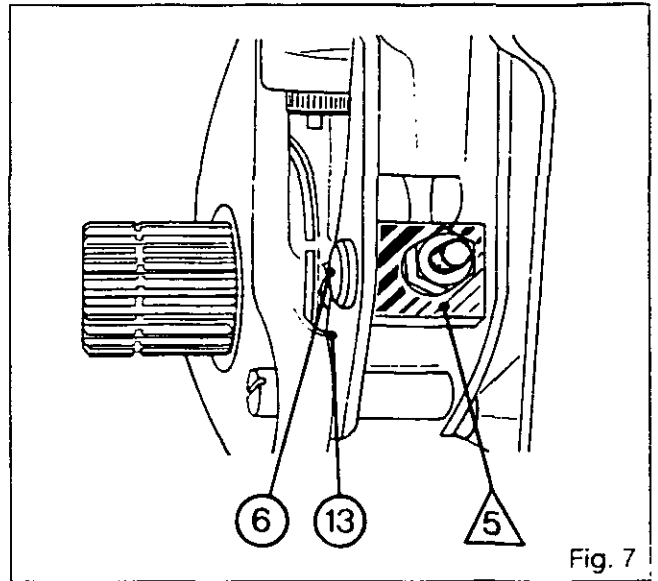
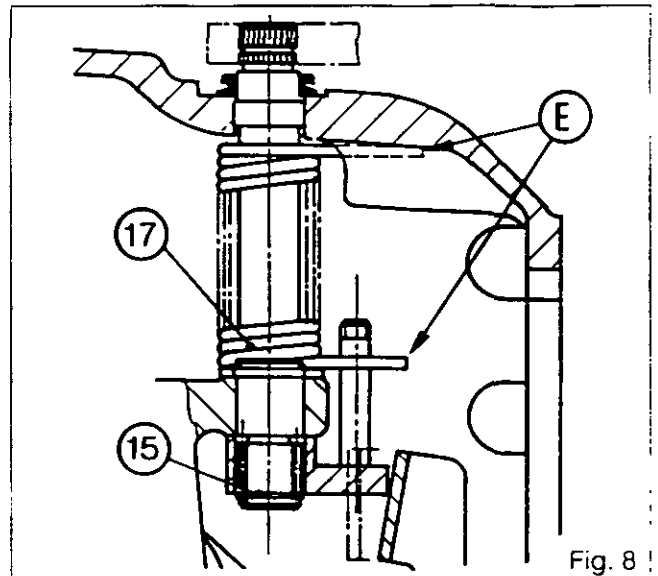

Fig. 7
Fig. 8
36. Refit the clevis (7) prepared with the stud (3) and the pin (8). Replace the split pin (9).
37. Fit the lever (13) with its pin (6) on the stud (3) of the clevis.
38. Refit the plate (5), tighten the nut (4).
**Note: The plate (5) is rectangular. It must be positioned horizontally, lengthwise, on the pin (6) in the lever (13) to be correct (Fig. 7).**
39. Replace the discs (30), placing the mechanism (31) between them.
**Note: Fit the lever (13) on the finger (23). Check that the discs slide freely on the bevel drive pinion (26).**
40. Place the retainer ring (21) (if removed) on the shaft (20).
41. Fit the shaft (20) in the closing plate (24) with the washer (22) and the spring (17).
43. Check that the discs (30) and the mechanism (31) are correctly positioned.
44. Fit and tighten the screws (25) to a torque of 90 - 120 Nm.
45. Fit the cam (14) with its finger (16).
46. Fit the circlip (15). Replace the spring (17), positioning its ends E as indicated in Fig. 8.